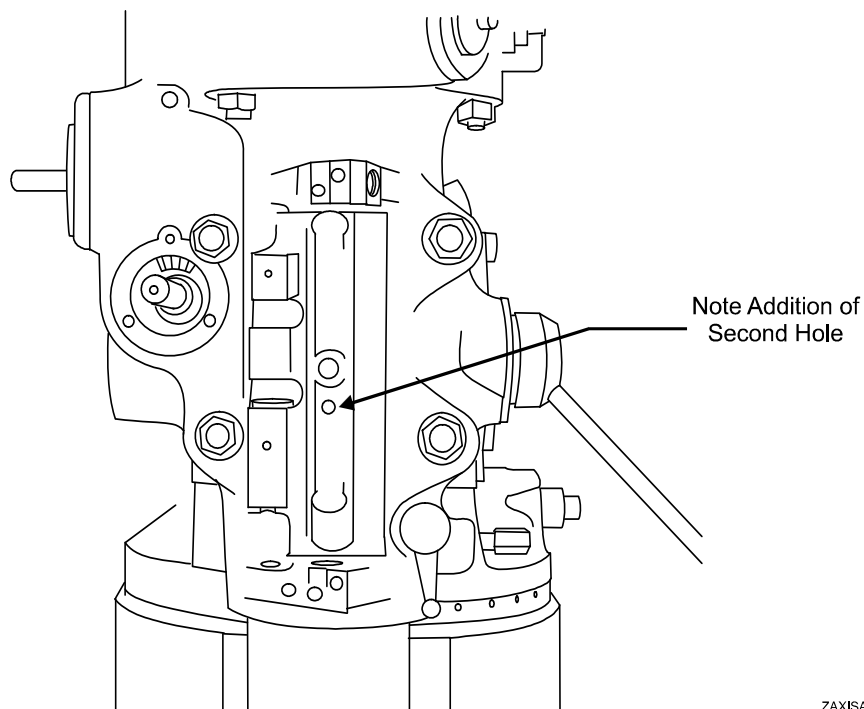

Figure 3-20, Z Axis Prepared for Installation
15. Remove the Allen screw and quill block from the quill. Refer to **Figure 3-20**.